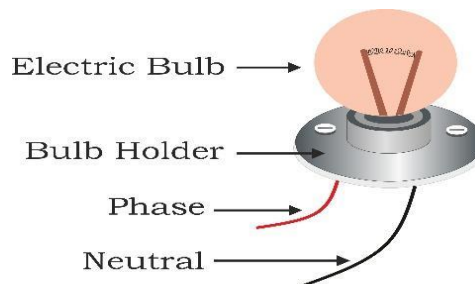

Fig. 2.6: Electric AC bulb with two terminals
Step 4. Now, you have a bulb holder in which wires are connected as shown Figure 2.6.